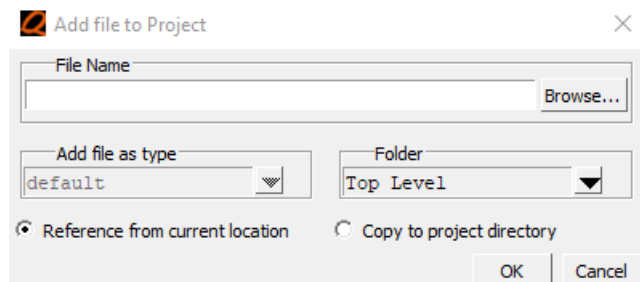

Figure 9 Add Existing File window
**Add Existing File**. A popup window opens where you can navigate to the file, *Figure 9*.
In *Figure 9* you have the option of keeping the file where it is or creating a copy in the project folder. In the last case, the original file will not be changed by edits within the project.